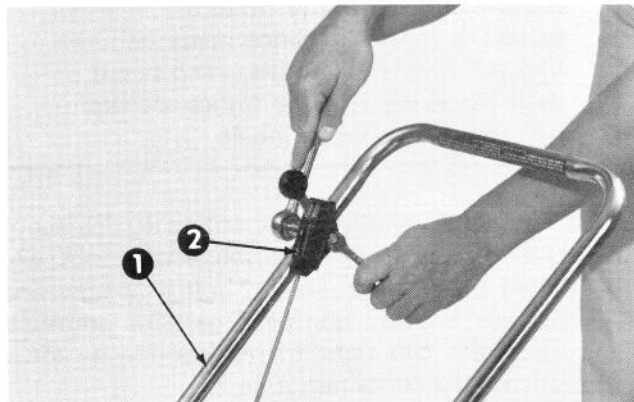

Figure 3
- Bolt the throttle control to the upper handle, inner right hand side (Fig. 3).